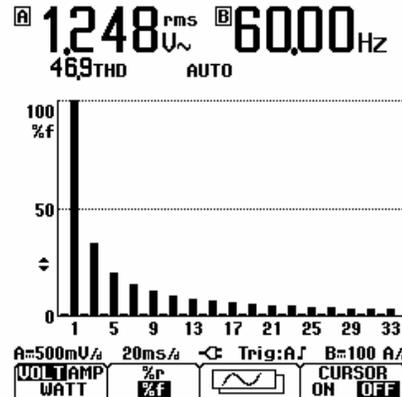

Figure 3-7. Bargraph Harmonics Volt
9. Check if the bargraphs of VOLT HARMONICS look like the the ones in Figure 3-7.